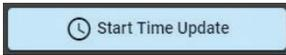

Figure 35. Start Time Update Button
Step 6: Click the 'Start Time Update' to apply the template. (Figure 35) You will see the status change from pending, to In progress, to 'Completed Successfully'. You will notice your SER time setup template will be shown under the 'Template' column for each device the template was applied to.